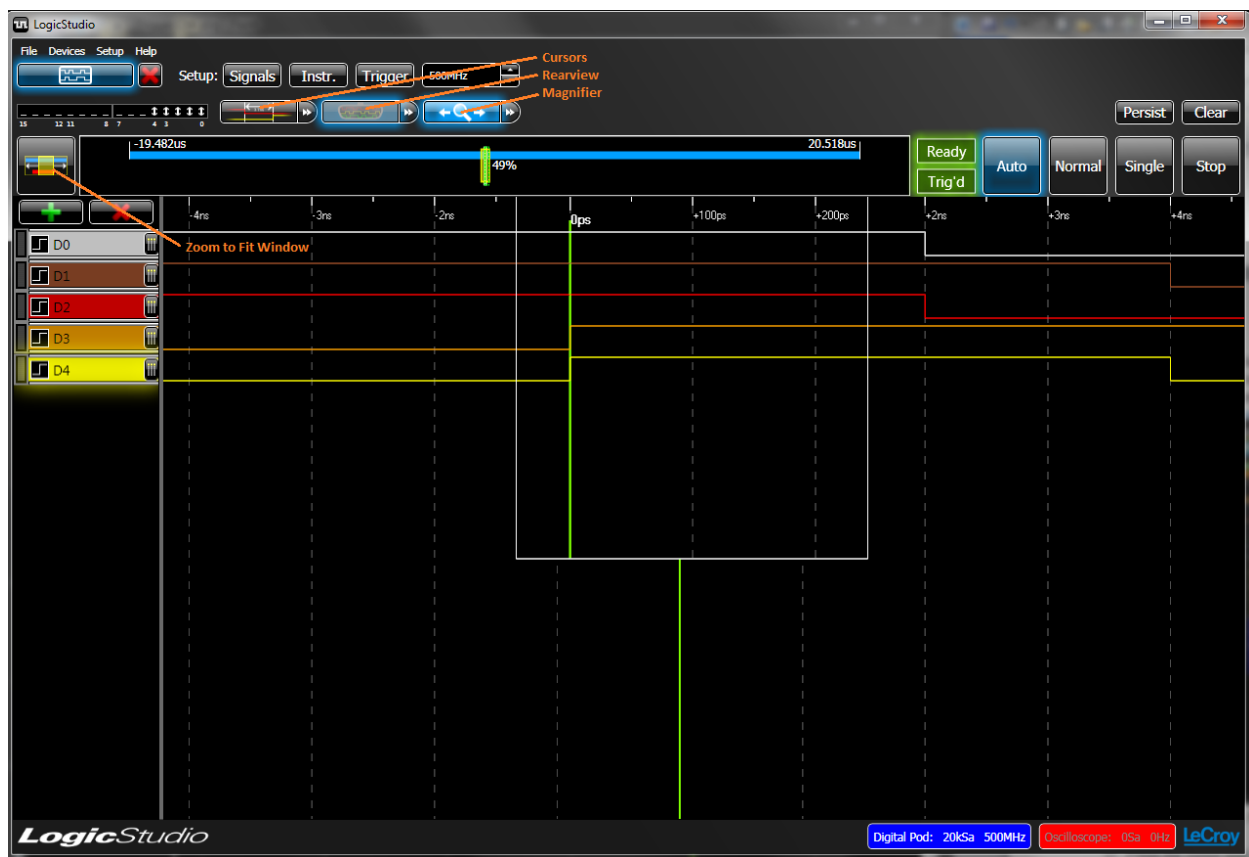

Figure 5: The Cursors, Rearview, Magnifier, and Zoom to Window icons
15. Press the Magnifier button, shown in figure 5; it will be highlighted in blue. Move your cursor into the signal display. This tool provides a quick magnified view to see details in the signal display window. Click the Magnify button again to close the magnifier window.